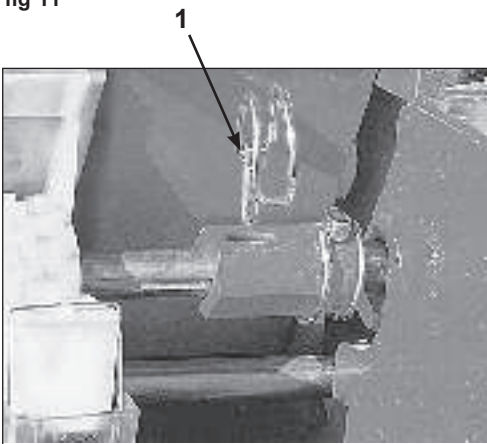

fig 12
- 4 Agitator Shaft - Check the seed chart for hints on whether to connect or disconnect this shaft during seeding. Refer P 14, Fig 6 & Fig 12/1.